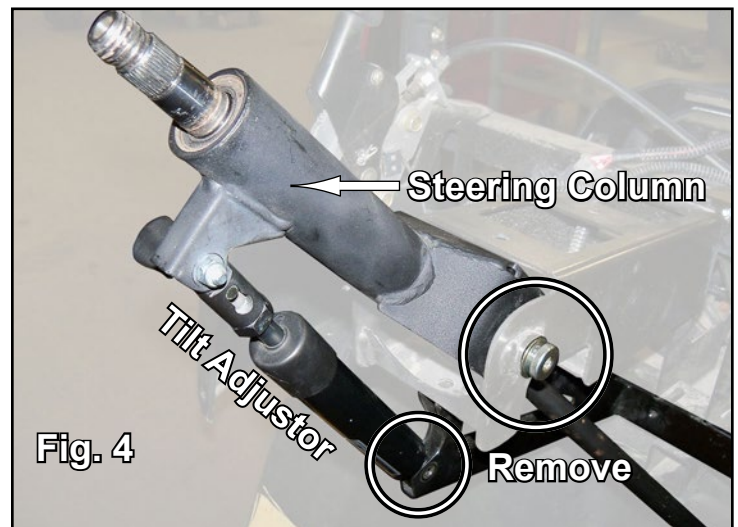

Fig. 4
4. Remove hardware from lower Tilt Adjustor hole. Remove Steering Column and hardware. See Fig. 4.